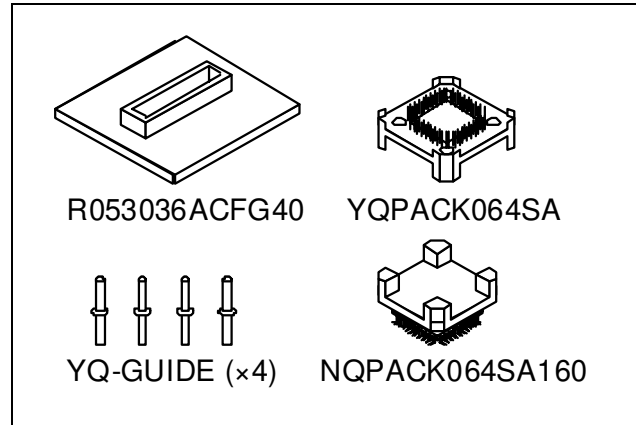

Figure 1 Package components of the R0E53036ACFG40
2. Package Components (See Figure 1)